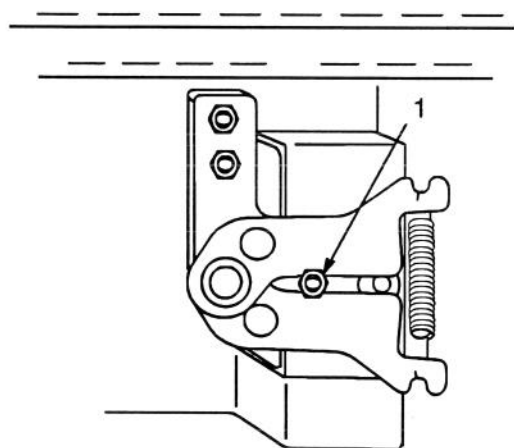

Figure 8
2. Loosen locknut securing adjustment (Fig. 8).
3. Move adjustment stud up or down until creep is minimized (Fig. 8). There may still be some wheel rotation with wheels off the ground.
4. Tighten the locknut (Fig. 8). Move the traction control pedal forward and reverse and allow it to center. Verify that there is still no creep with the wheels on the ground.